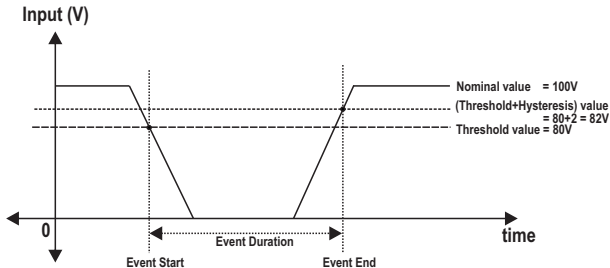
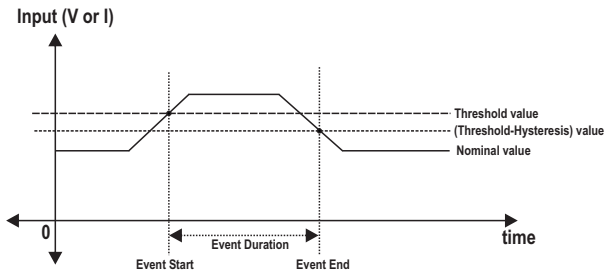

Figure 9.1: Waveform of SAG detection for 1P2W system
Figure 9.2: Waveform of SWELL/ OVERCURRENT detection for 1P2W system
The Threshold and Hysteresis settings (Section 3.2.6) done in % by the user results in the following values: (Consider Figure 9.1)
- (1) For the events to be detected, it is recommended to bring the system voltage and current for all channels to their corresponding nominal values.
- (2) The nominal voltage is the L-L PT Primary value in case of 3P3W system and L-N PT Primary value in case of 3P4W and 1P2W system.
- (3) The nominal current is taken to be CT Primary value.
- (4) In case of polyphase systems, sag begins when the voltage of one or more channels falls below the threshold and ends when the voltage on all measured channels is above the threshold plus the hysteresis voltage (Figure 9.1). Similarly, the Swell/Overcurrent event is shown in Figure 9.2.